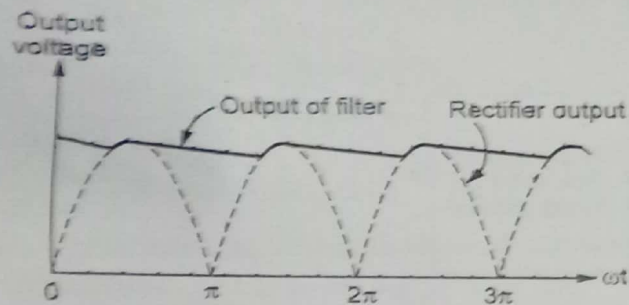

Fig. Q.36.2 Waveforms of π filter
- The Fig. Q.36.2 shows the waveforms of π (Pi) filter.